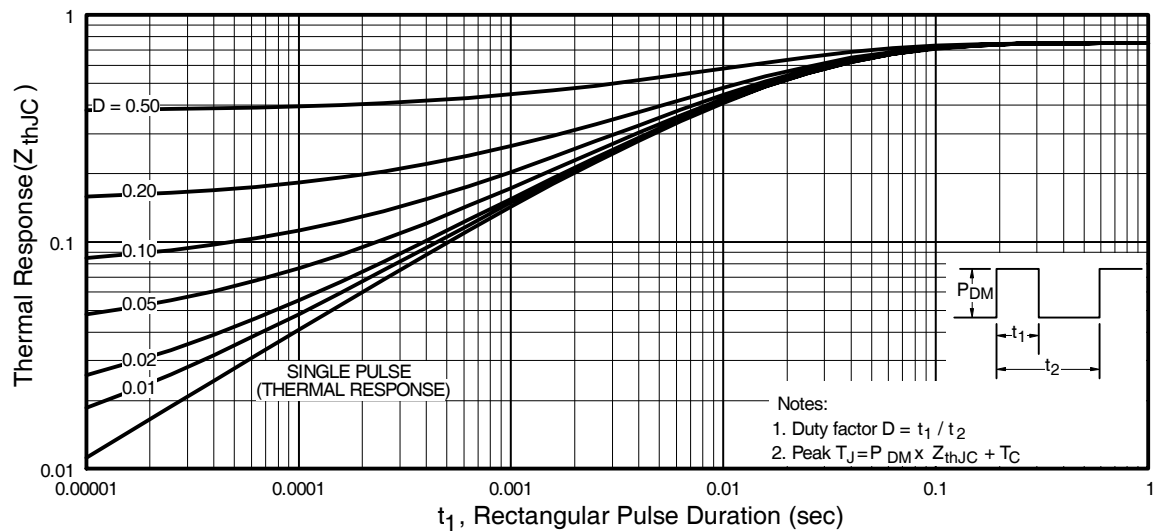

Fig 11. Maximum Effective Transient Thermal Impedance, Junction-to-Case
- ① Repetitive rating; pulse width limited by max. junction temperature. (See fig. 11)
- ② Starting $T_J = 25^\circ\text{C}$, $L = 0.12\text{mH}$